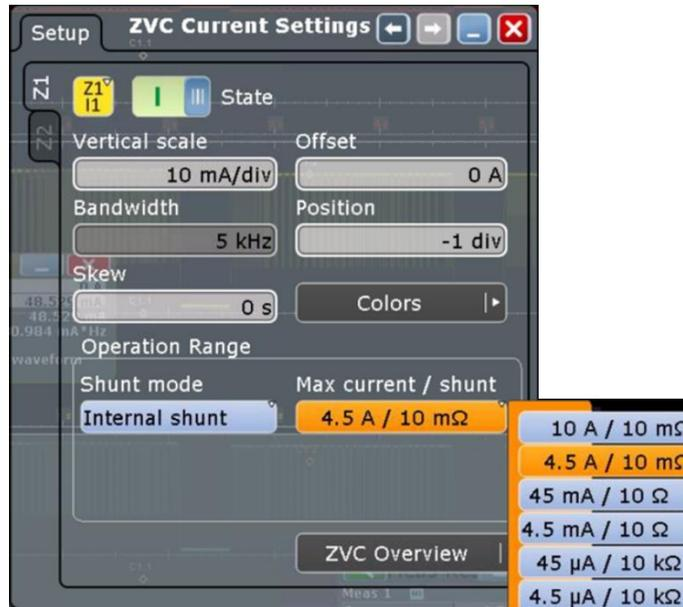

Figure 4-4: Current Measurement configuration on the RTO
For the current measurement the RTO contains switchable shunts with the values 10 mΩ, 10 Ω and 10 kΩ. Thus, current measuring ranges from 4.5 μA to 10 A full scale are available (Figure 4-4).
- The maximum current consumption of the DUT appears to be $\sim 150\ \text{mA}$, which means that the 4.5A current range has to be chosen. Configure ZVC Current Settings as shown in Figure 4-4